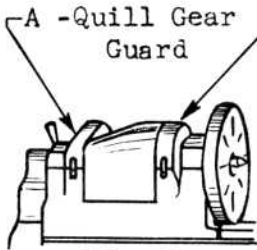

Fig. 1
1. Remove items "A" and "B" (Fig. 1).